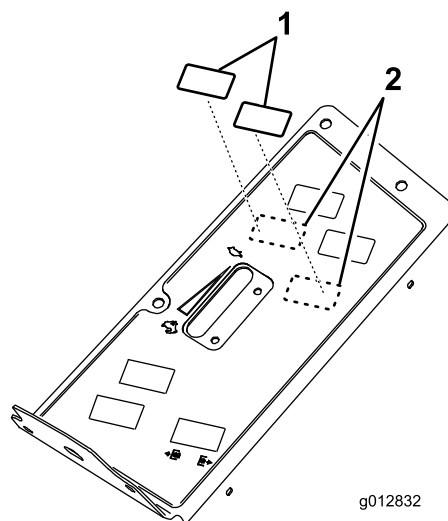

Figure 28
7. Locate and remove the 2 knockout plugs from the top of the control panel (Figure 28).